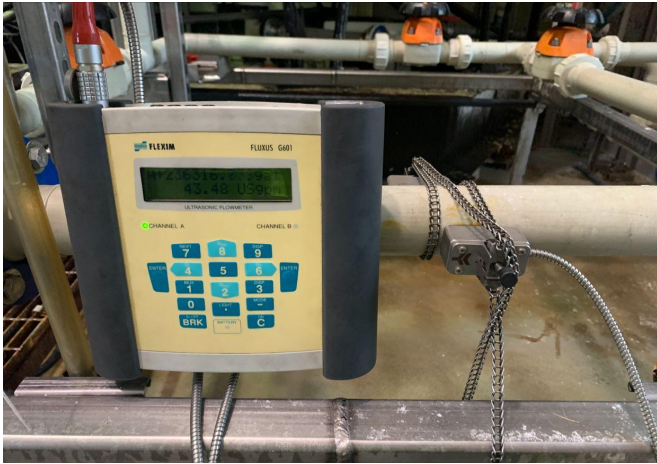

Figure 2: An Ultrasonic Flow Meter
- Measured by a clamp-on ultrasonic flow meter as shown below in figure 2